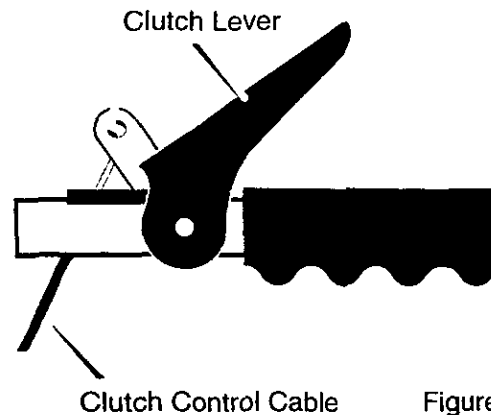

Figure 4
9. Make sure the **clutch control cables** are attached to the **clutch levers**. See Figure 4.